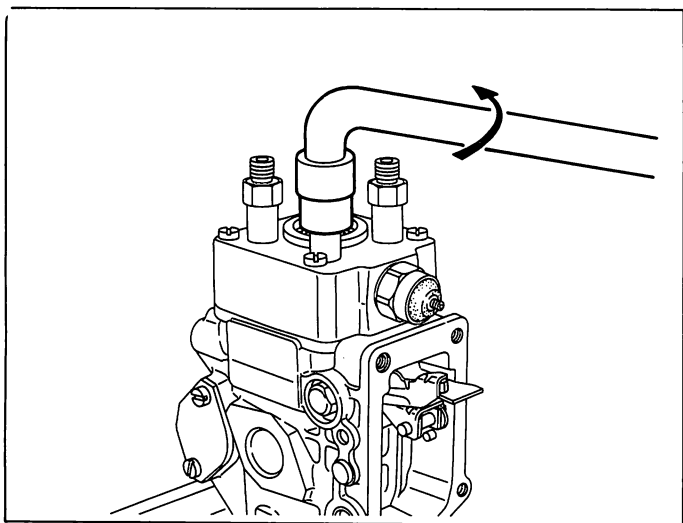

Fig. 15 Removing the delivery valve holder
16. Loosen the delivery valve holder (58) using the socket wrench (157914-1100), and then remove it together with the delivery valve spring (56) and washer (57). (Fig. 15)
**Note: 1** The letters A, B... etc. are engraved on each cylinder of the distributor head (50) for identification. Remove each delivery valve holder and delivery valve, etc. in alphabetical sequence and label them to ensure that they are remounted in the same cylinders.
**2** Washers (57) are not mounted on delivery valve holders fitted with damping valves.